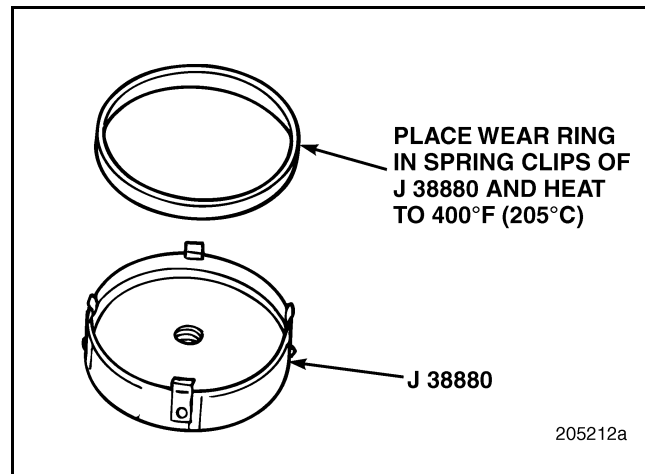

Figure 158 — Crankshaft Wear Ring Installation
1. Position the wear ring in the spring clips of the wear ring installer J 38880 with the arrow pointing away from the installer tool. Refer to Figure 158.